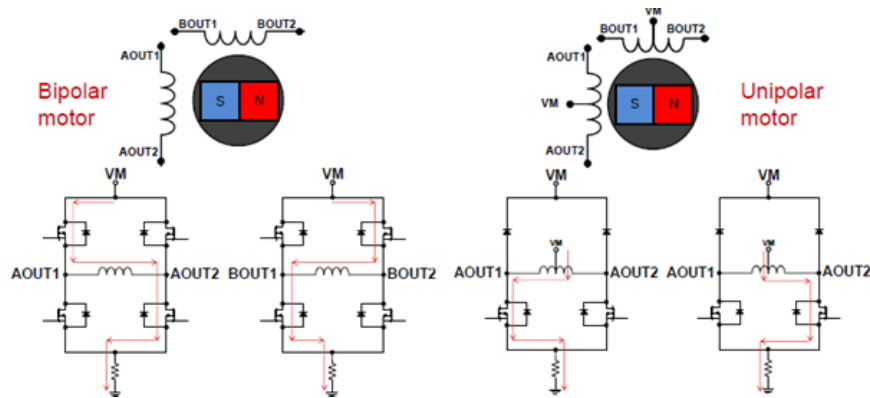

Figure 4. Unipolar vs Bipolar Motor
The two basic winding configurations for stepper motors are unipolar and bipolar windings (Figure 4).
- Bipolar motors only require 4 wires, 2 for each winding. In the case of a bipolar stepper motor, the stator has two windings, each requiring bidirectional current. Unlike unipolar motors, which use center-tapped windings to simplify control, bipolar stepper motors offer higher torque and better efficiency by utilizing the entire winding during operation. However, because each coil must be energized in both directions, an H-bridge circuit is typically used to control the current flow through the windings. The circuit differences can be seen in Figure 4.